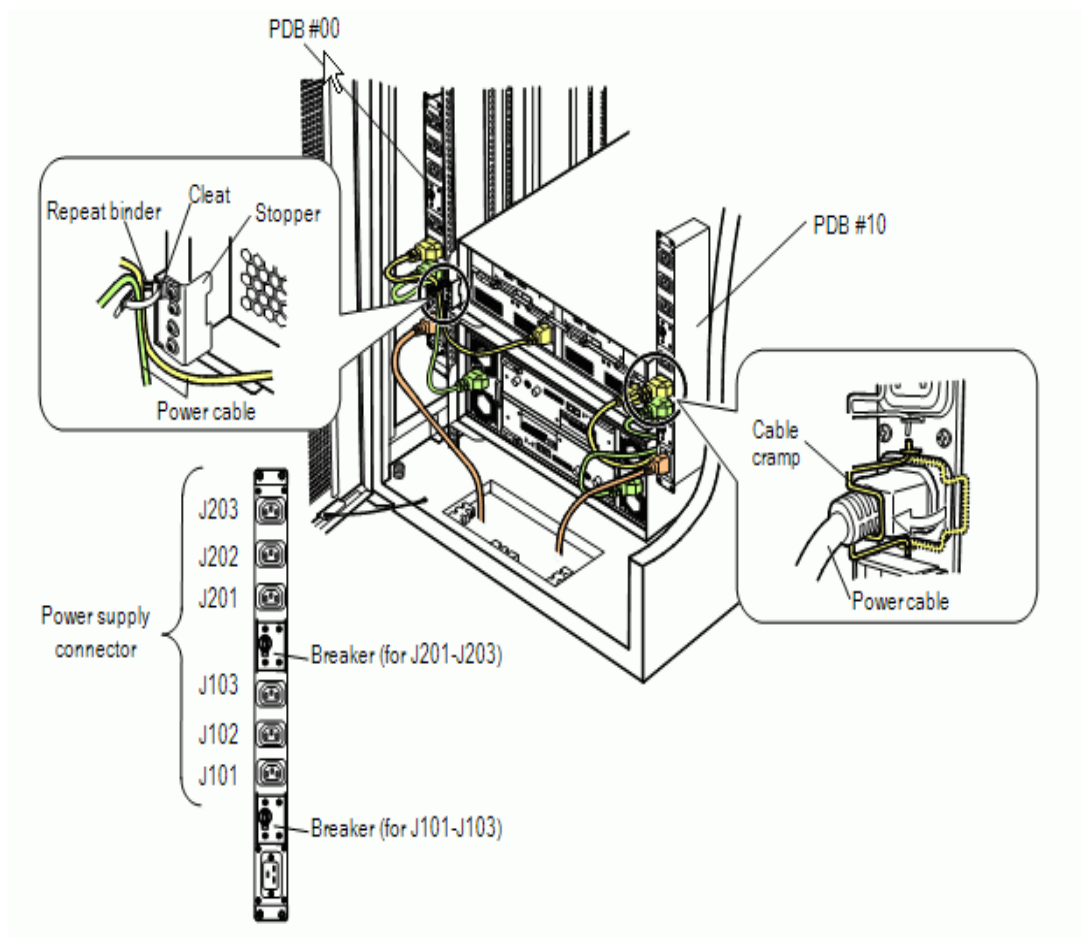

Figure 5-45: Connecting Power Cables (Rack PDB)
3. Recheck the power cable plug to make sure it is still secure in the PDB and that it has not become loosened during the cable routing. See Figure 5-45.